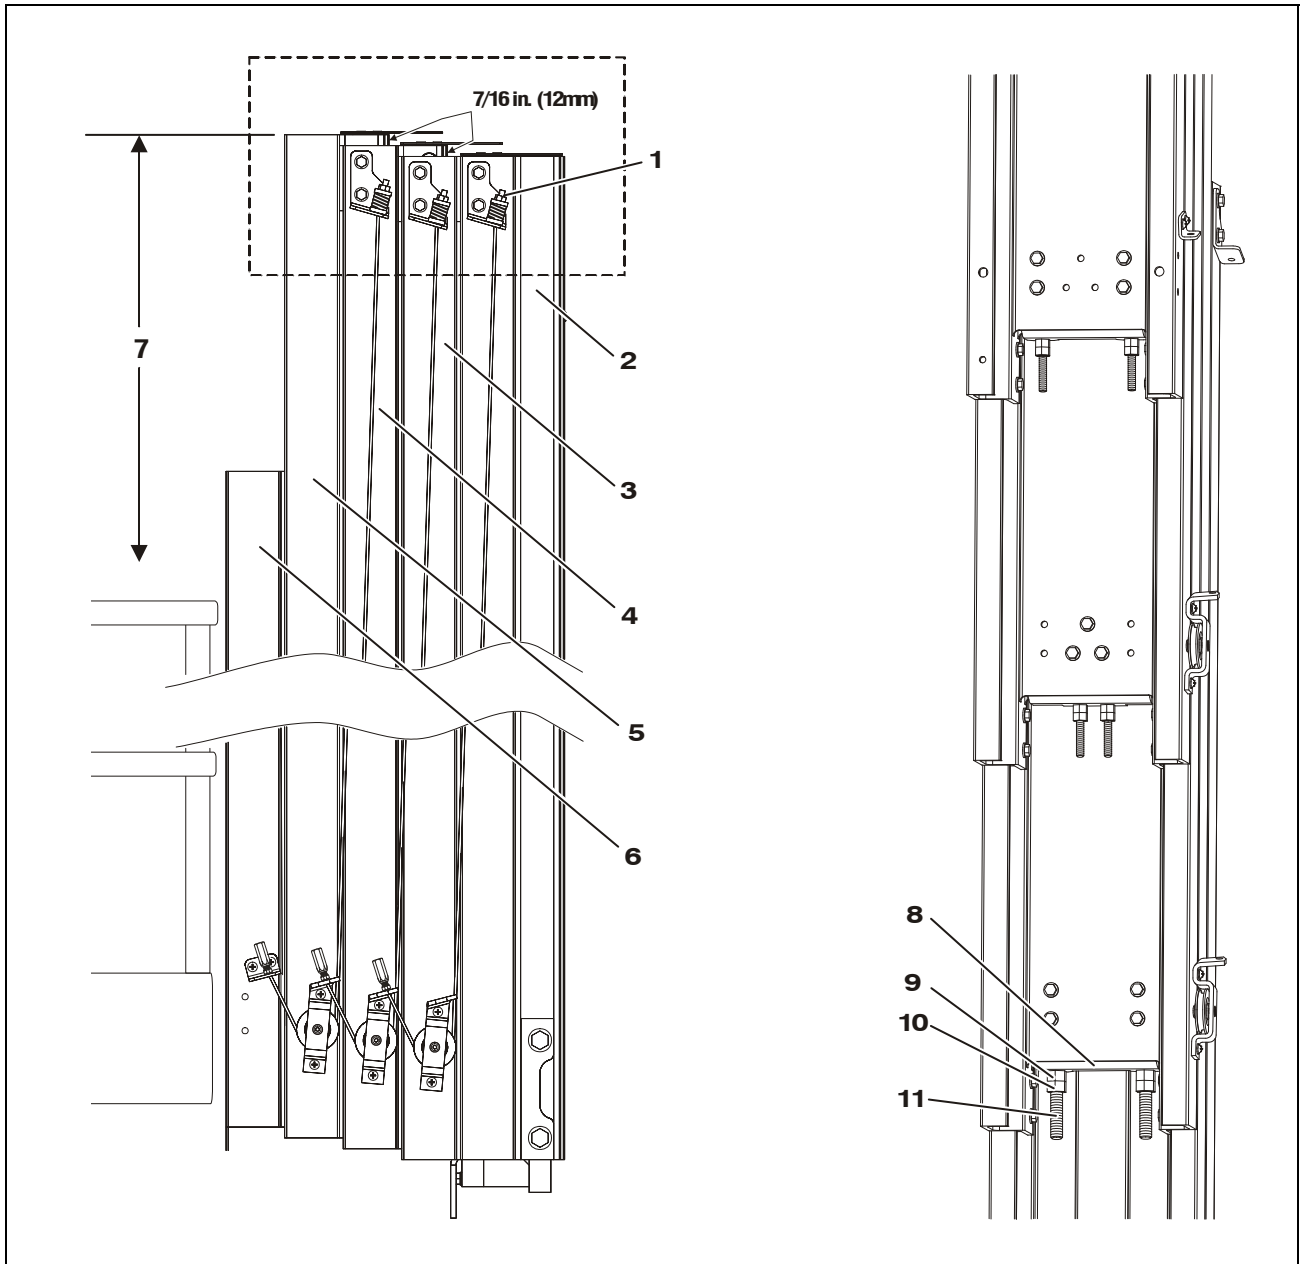

Figure 5-2. MVL/MSP - Mast Chain and Sequence Cable Adjustment Components.
6. **Tighten** (*to raise mast section*), or **loosen** (*to lower mast section*) the **adjusting nut** against the anchor plate on each chain/cable. Adjust the nut the amount required to raise or lower the top of the mast section to match the side profile shown in Figure 5-2. when the mast is retracted.
7. Retract the mast all the way and check if the top of the mast sections appear as shown in Figure 5-2.
8. Repeat steps (1) through (7) for remaining mast sections.
1. Be certain the mast is completely retracted and at the bottom of travel. Check the mast "Side Profile" at the top of the mast as shown in Figure 5-2., adjust mast sections to proper height if necessary.